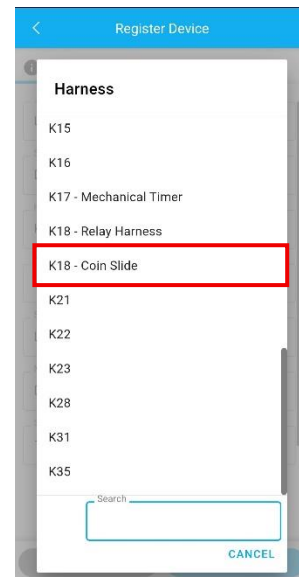

Figure 27
- Be sure to select the specific harness type during registration, in this case select the **K18-Relay Harness** (see **Figure 27**).